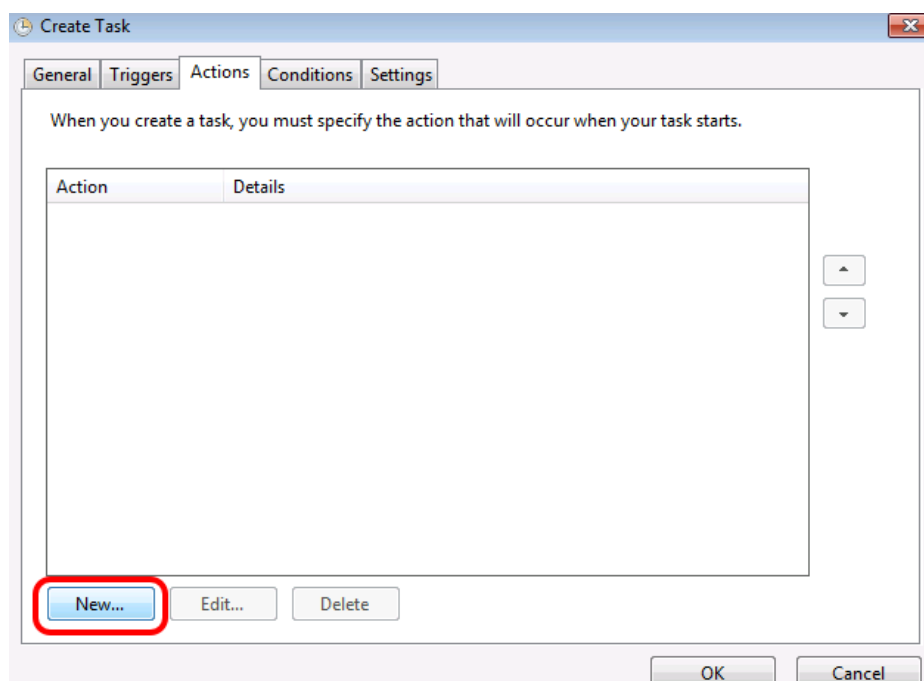

Fig. C.30: New Action creation
STEP 5 – In *Create Task* window please select *Tab Actions* and click on *New....* to create a new action (Fig. C.30).